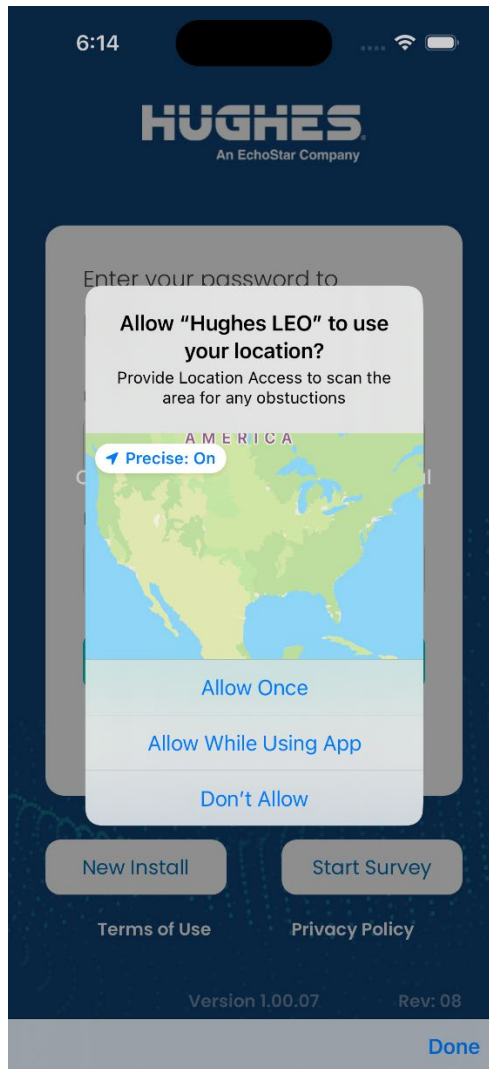

Figure 90: Allowing the app to use your location for commissioning the user terminal
7. The app will ask you to give your permission for using your location information (as shown in Figure 90) if you have not done this earlier at this installation site. If you do not give location permission, then the commissioning procedure will abort.